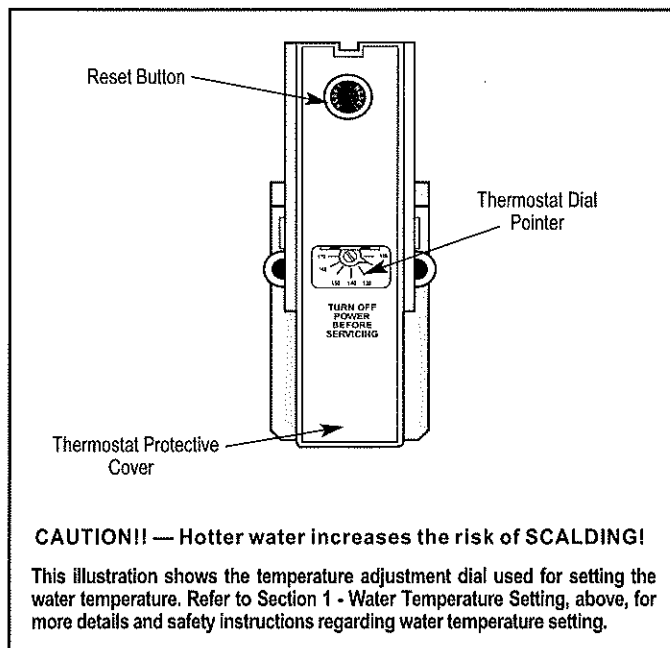

Figure 4. — Thermostat and Protective Cover.
If adjustment is necessary, **turn off** power to water heater, remove jacket access panel and insulation exposing thermostat. The thermostat protective cover **should not be removed**. Set thermostat dial pointer, with a small screwdriver, to desired temperature. (Refer to Fig. 4.) Replace insulation and jacket access panel. Turn on power to water heater.
**cover SHOULD NOT be removed.** (Refer to Fig. 4.) Press red "RESET" button. Replace insulation and jacket access panel before turning on power to water heater.